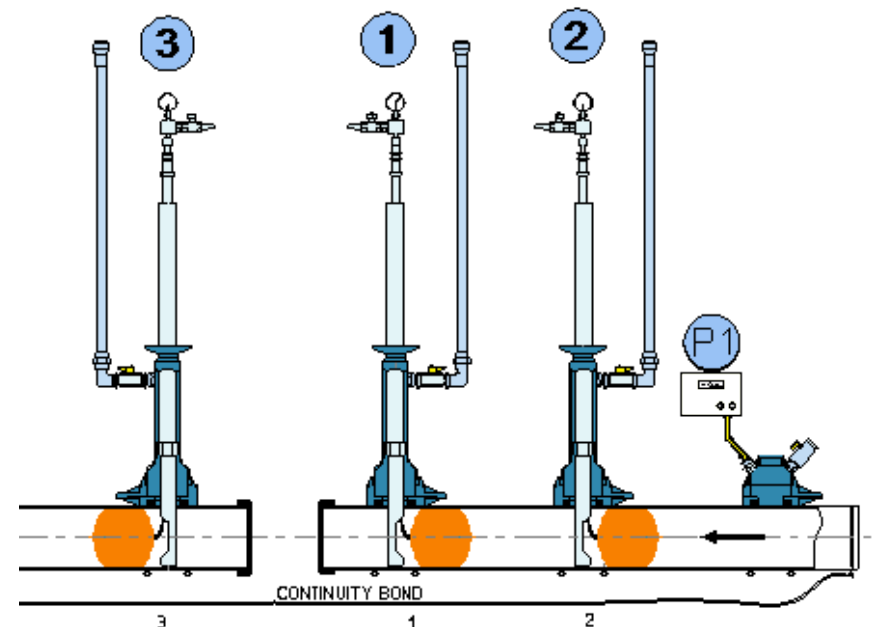

Figure 93- Cut Out Operation
1. Provide good support with timber and wedges to the section of main to be removed. See Figure 93.